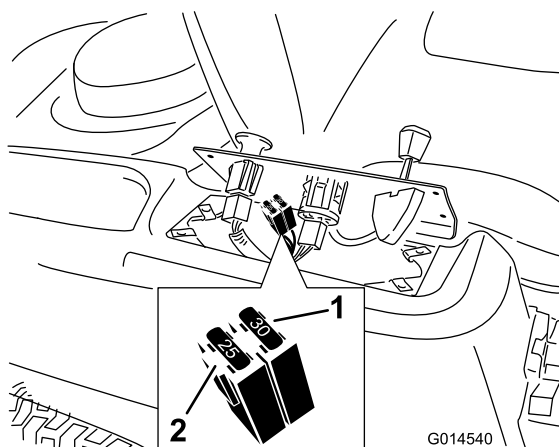

Figure 40
2. Lift the control pane up to access the main wire harness and fuse block (Figure 40).
3. To replace a fuse, pull out on the fuse to remove it (Figure 40).